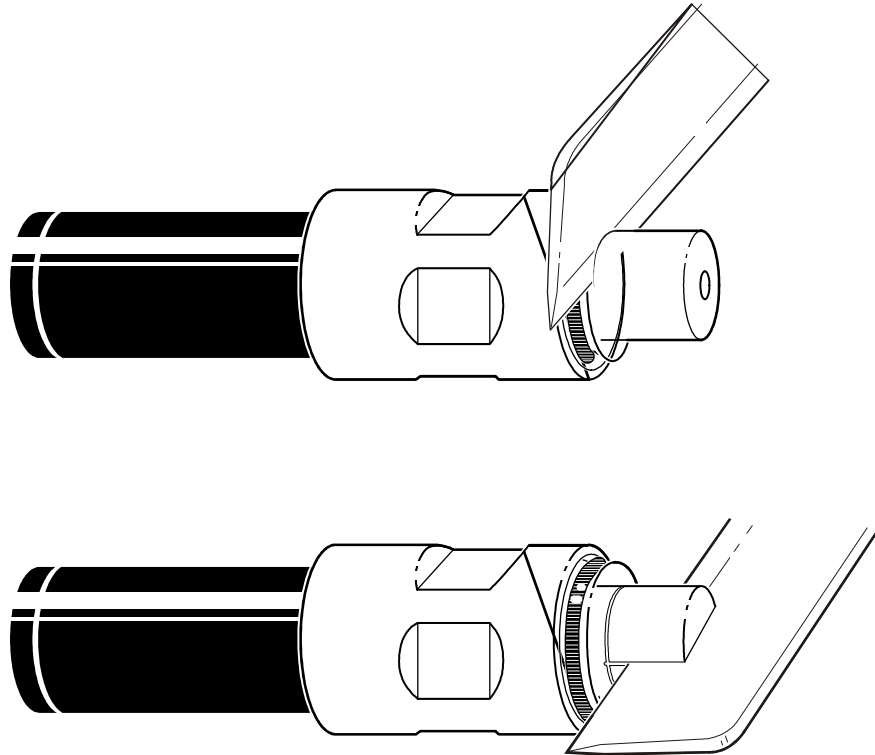

Figure 61 – Removing the foam dielectric
1. Use a knife to cut the foam dielectric flush with the outer conductor, to the depth of the inner conductor, then cut along the length of the inner conductor several times until all the foam dielectric is removed from the inner conductor; see *Figure 61*.